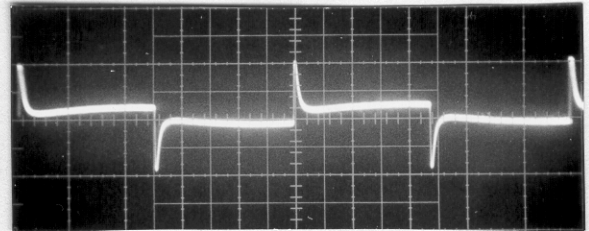
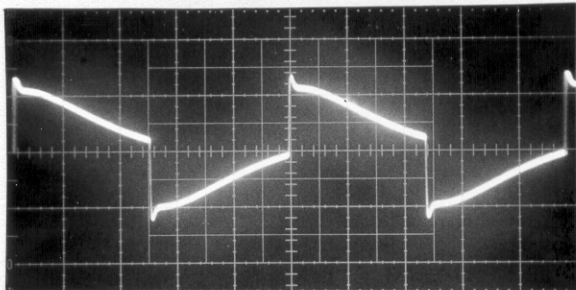

Fig. 7. Lo-Mid to 0.
Fig. 6. Lo-Mid to 10.
- C) Lo-mid to 10-Fig.6;Lo-mid to 0-Fig.7